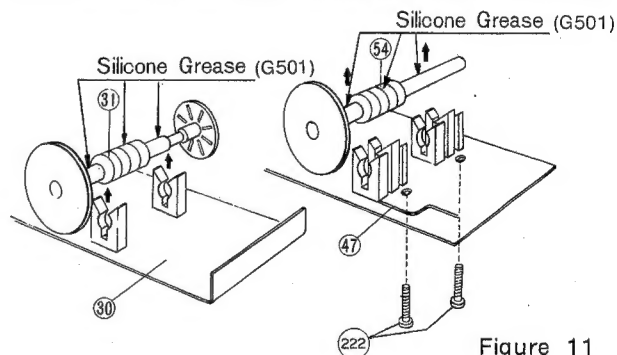

Figure 11
1. Worm gears have been press-insert mounted. When worm gears are lifted, make sure to apply an equal force to each connecting parts (Fig. 11).
2. To lift the Worm Gear (54) remove the two Screws (222).